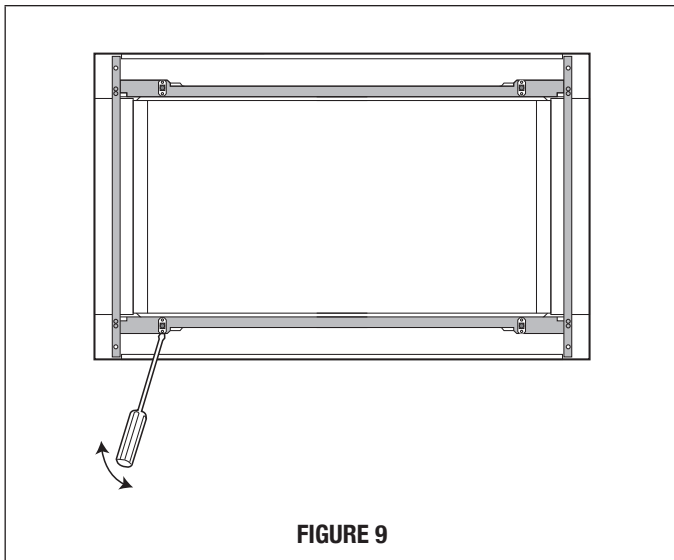

FIGURE 9
D. DISASSEMBLY: The FRONT FRAME and BACK FRAME come pre-assembled with ball studs engaged in the receivers. Separate the FRONT FRAME from the BACK FRAME. Place the assembly facedown on a protected surface. At the location of the ball stud, insert a flathead screwdriver between the FRONT FRAME and the BACK FRAME and gently pry up to disengage the ball stud from the receiver. Repeat for each corner. See Figure 9.